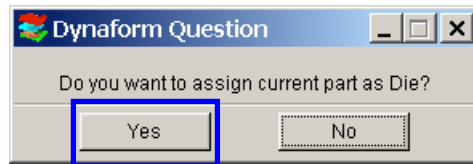

Figure 4.8
- Click **Yes** to assign the current part as Die (Figure 4.8)